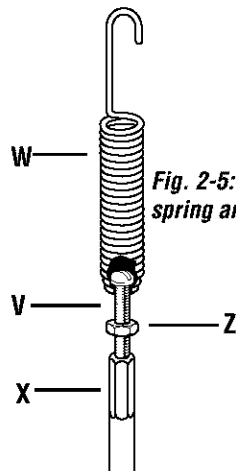
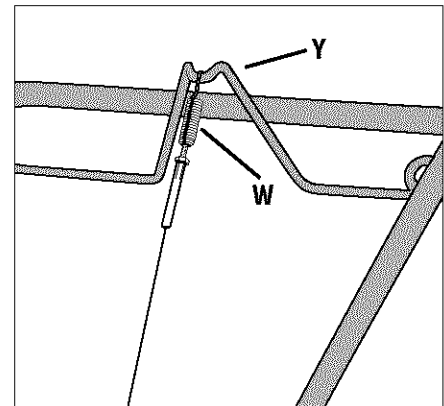

Fig. 2-5: Assemble spring and adjuster.
Fig. 2-6: Install forward clutch cable.
1	Spring, cable (see W, Fig. 2-5, page 8)
1	Bracket, forward clutch cable (see P, Fig. 2-5, page 8)
3. Insert the #10-24 x 2" slotted hd. screw (V, Fig. 2-5) down into the cable spring (W). The threaded end of the screw will extend from the bottom of the spring.
4. Thread the #10-24 hex nut (Z) on the slotted head screw (V). Thread it halfway up.
5. Thread screw (V) into cable adjuster (X).
6. Hook cable spring (W, Fig. 2-6) into "V"-shaped bend in the forward clutch bail (Y).